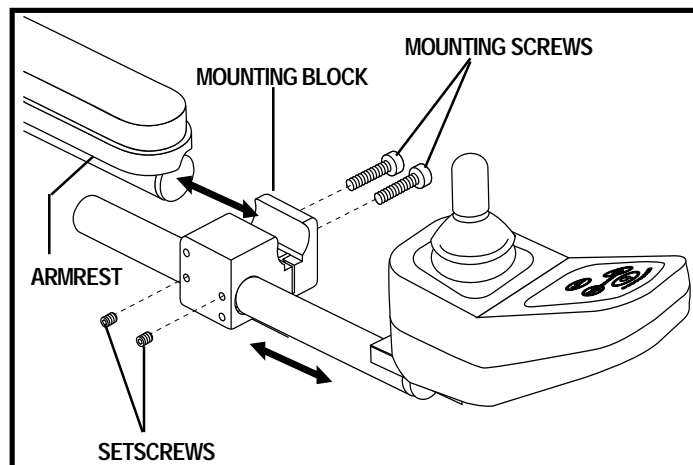

Figure 18. Controller Mounting Block (FLIGHT Shown)
4. Loosen the mounting screws. See figure 18.